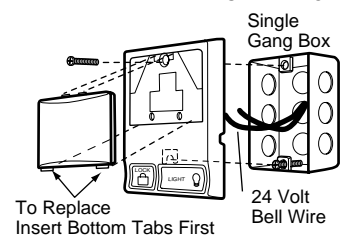

Figure 3
1. Strip 1/4" of insulation from one end of bell wire and connect to the two screw terminals on back of door control by color: white wire to 2 and white/red wire to 1 (Fig. 3).